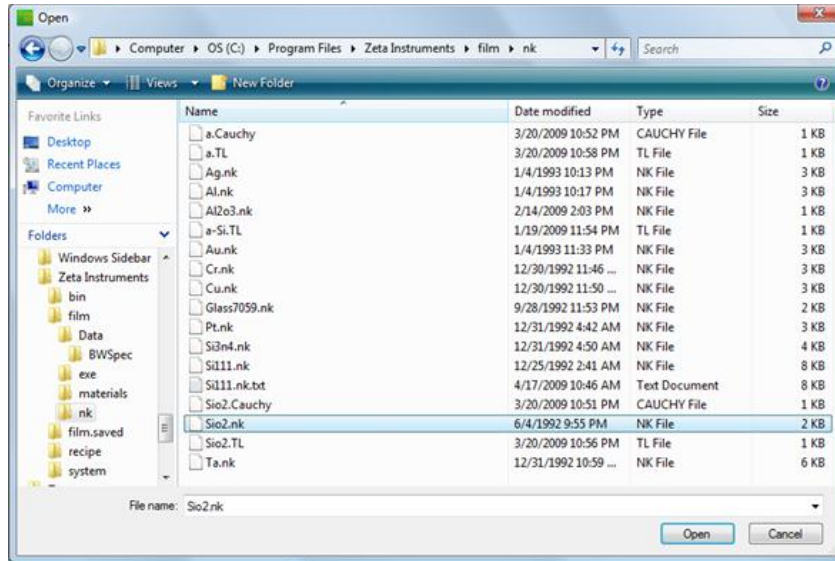

Fig. 120. Material selection window
- b. In the film properties frame, enter the substrate thickness then press **Load** to display the material selection window, shown in Fig. 120.